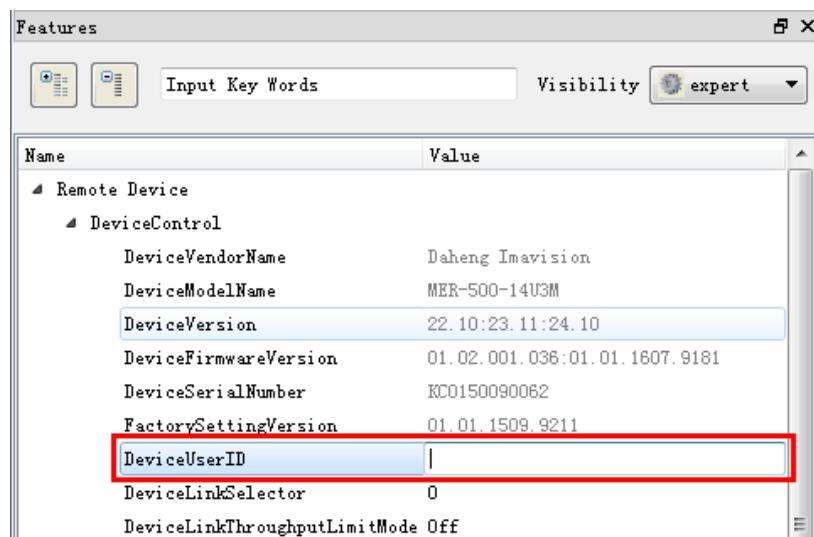

Figure 8-49 GalaxyView software
- 1) Set by the GalaxyView, as shown in the Figure 8-49.